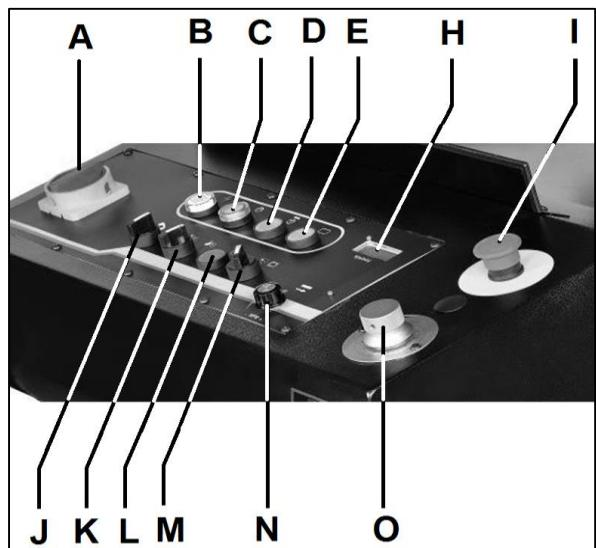

Figure 7-1: Machine Controls
- If the blade gets stuck in the cut, press the emergency stop button (I, Fig 7-1) immediately to switch off the machine. Open the vice slowly, remove the part and check that the
Rotate knob (N, Fig 7-1) to set the blade speed.
Connect the machine to power source. Turn the main switch (A, Fig 7-1) on. The power lamp (B) will be lit.
1. Press button (C) to start the hydraulic pump.